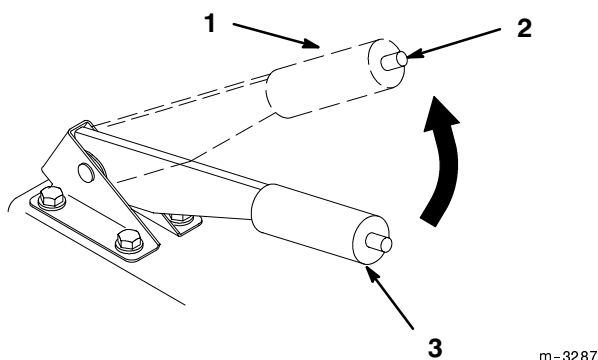

Figure 9
2. Pull up on the parking brake lever to set the parking brake (Fig. 9). The parking brake lever should stay firmly in the "SET" position.
1. Push in on the button and lower parking brake lever to "OFF" (Fig. 9).